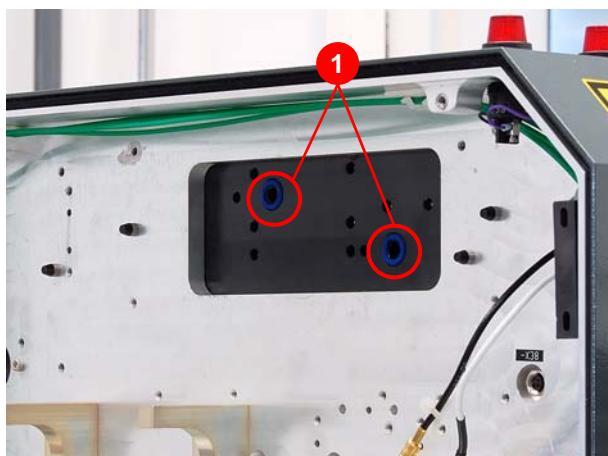

Figure 8.40 O-rings
28. Remove the O-rings (1) (Figure 8.40).